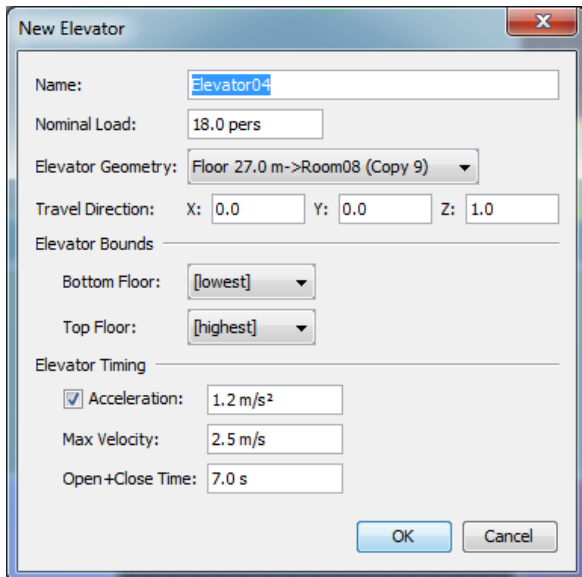

Figure 29: New Elevator dialog
- 3) Right-click the base room, and from the right-click menu, select **Create Elevator...**. This will show the **New Elevator** dialog as shown in Figure 29.